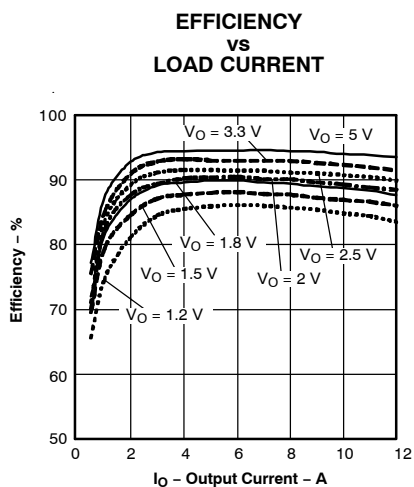
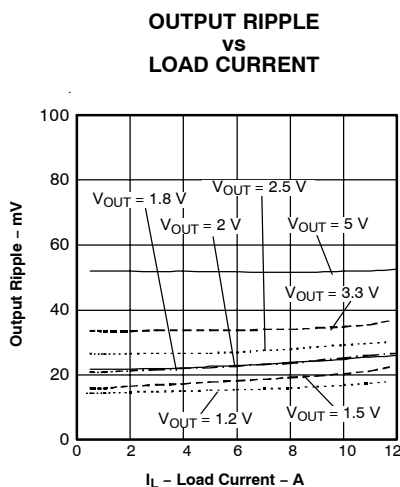
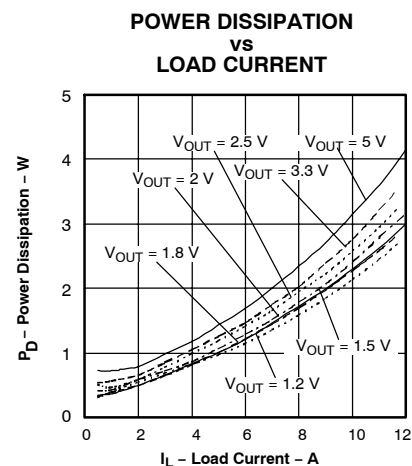

Figure 1.
Figure 2.
Figure 3.
- (21) The electrical characteristic data has been developed from actual products tested at 25°C. This data is considered typical for the converter. Applies to Figure 1, Figure 2, and Figure 3.